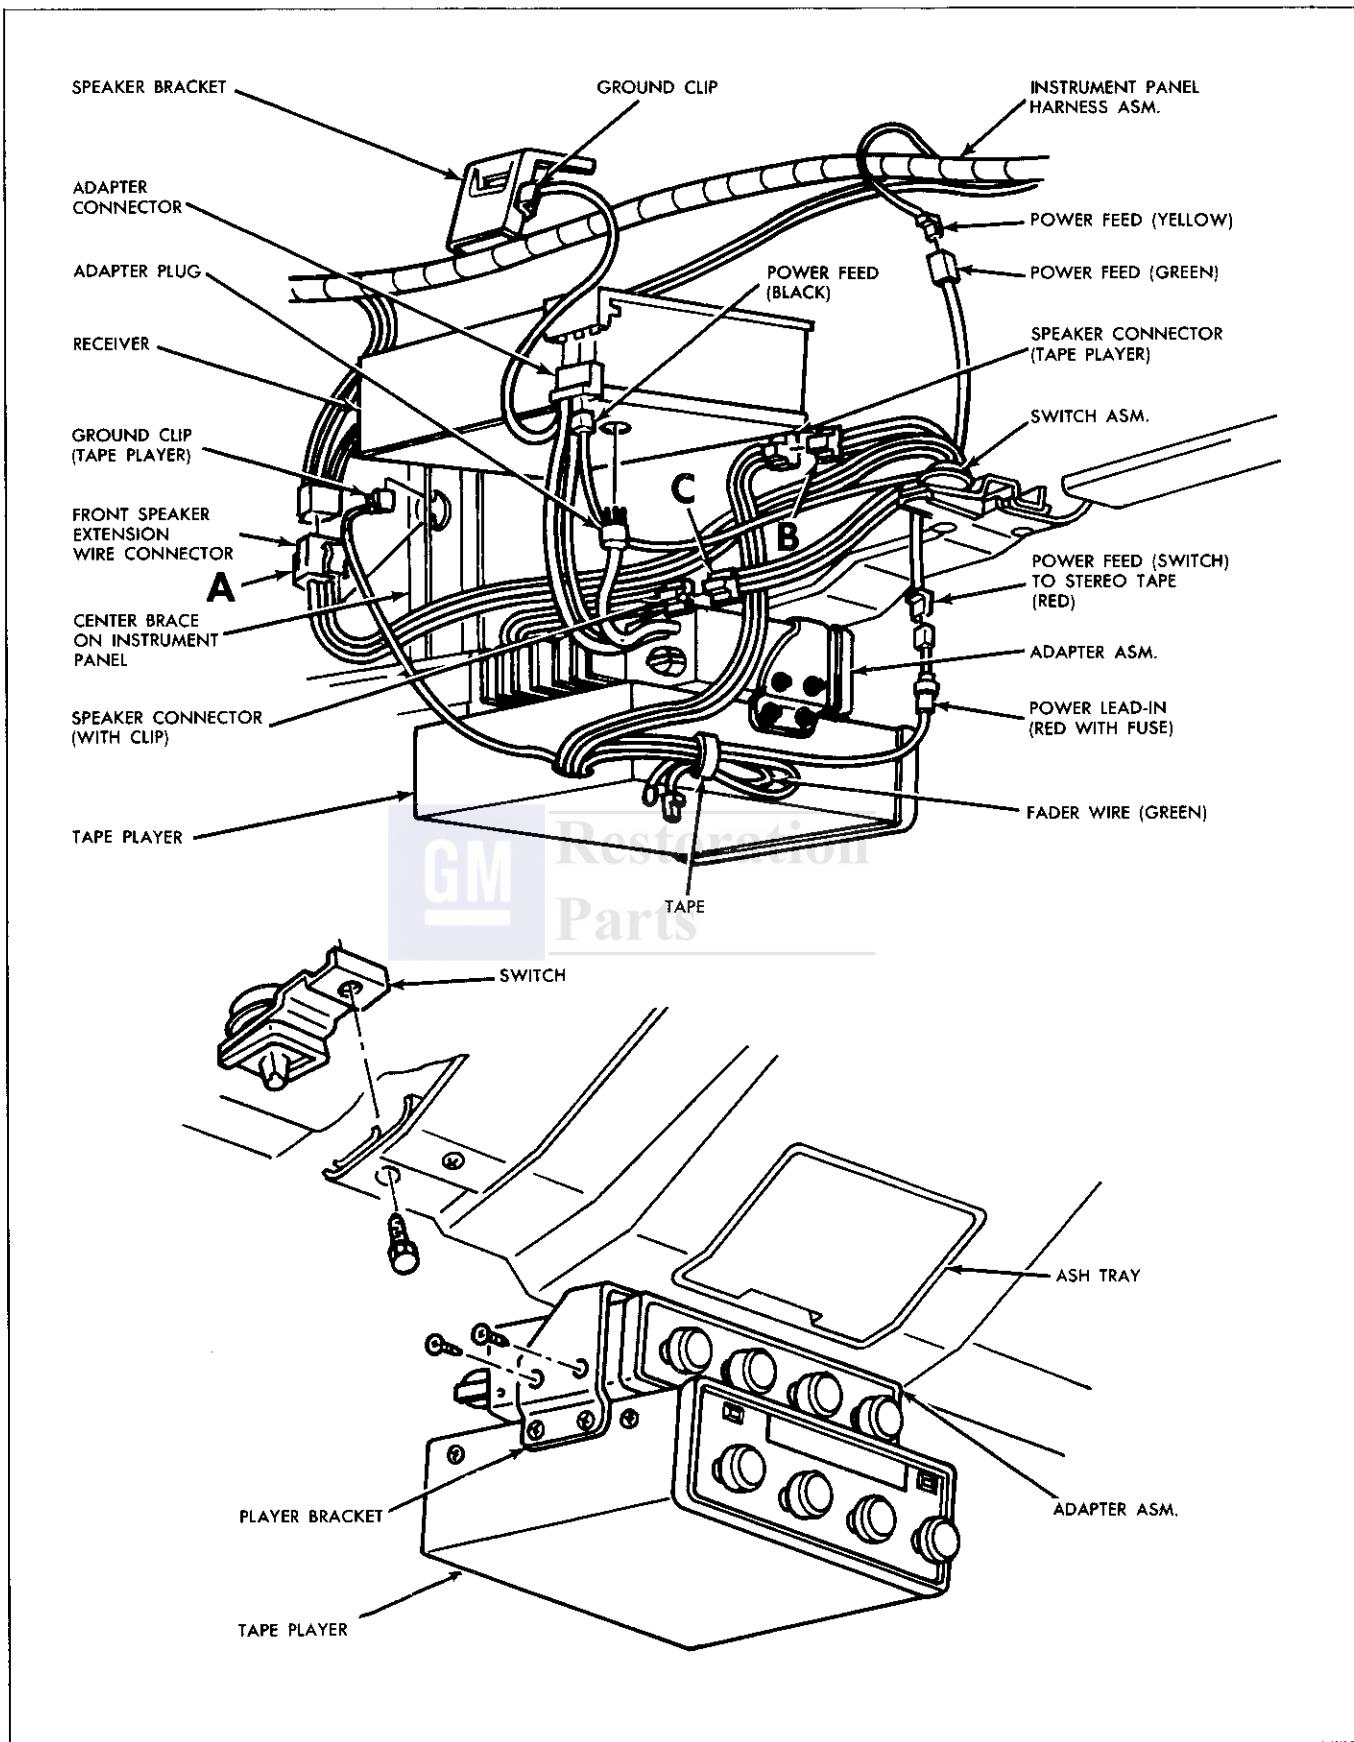

Fig. 15-54 Stereo Tape Player with Multiplex—Firebird
5. Disconnect six-wire speaker connector from stereo speaker connector (or from connector to multiplex-tape player switch-connector C in figure 15-54 if also equipped with tape player).
also equipped with multiplex adapter, this wire will be connected to a six-wire connector from the tape player-multiplex switch assembly (see Fig. 15-54).
REMOVE AND REPLACE MULTIPLEX-TAPE PLAYER SWITCH (Fig. 15-54)
4. Disconnect three six-wire connectors (marked A, B, and C on Fig. 15-54).